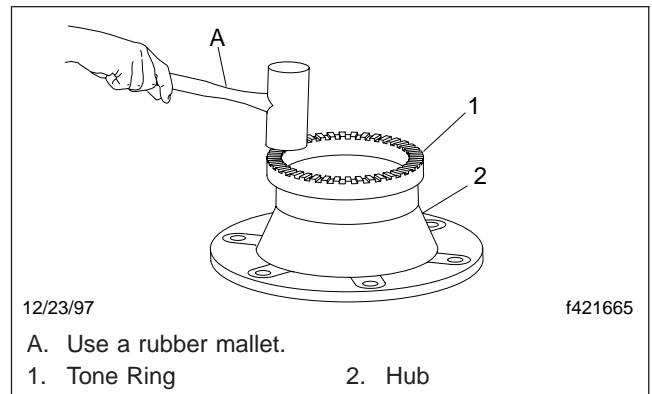

Fig. 2, Tap the Tone Ring
3. While the tone ring is still hot, make sure it is properly centered on the machined surface. Using a rubber mallet, tap the tone ring until it bottoms out around the machined surface on the hub. See Fig. 2.